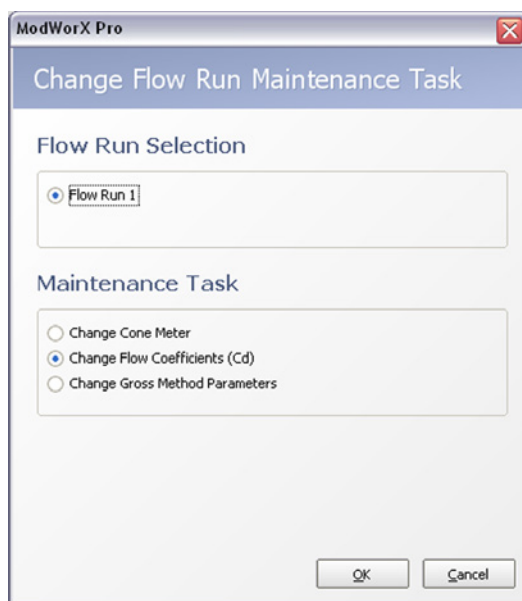

Figure 10.10
1. If Change Gross Method Parameters is not displayed in the Maintenance Task field at the top of the Maintain Flow Run screen, click on **Change Task**. The Change Flow Run Maintenance Task dialog will appear (Figure 10.10).